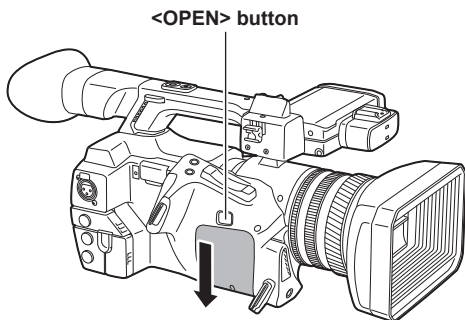

Fig. 1
- 1 Press the <OPEN> button and remove the cover by sliding it in the direction of the arrow. (Fig. 1)